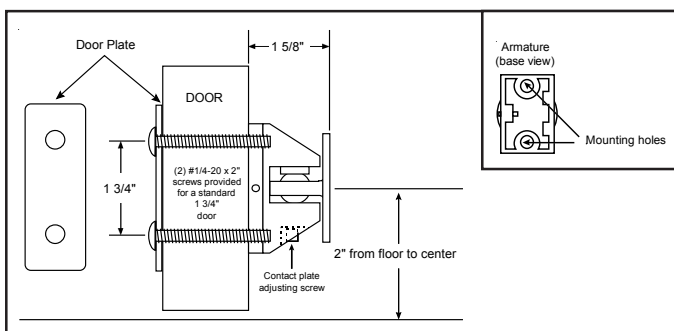

Figure 5. Thru-Bolt Mounting
1. Using a 5/32" Allen wrench, turn the contact plate adjusting screw (Figures 5 and 6) counterclockwise to loosen the contact plate.
- a. **Thru-bolt mounting (Figure 5).** Center punch the two holes (at the points marked in step 3) and drill 5/16" diameter through the door. Distance between the center points should equal 1 3/4".
Secure the armature assembly, with the contact plate adjust screw facing down, to the door as shown in Figure 5 using (2) #1/4-20 x 2" screws (supplied)